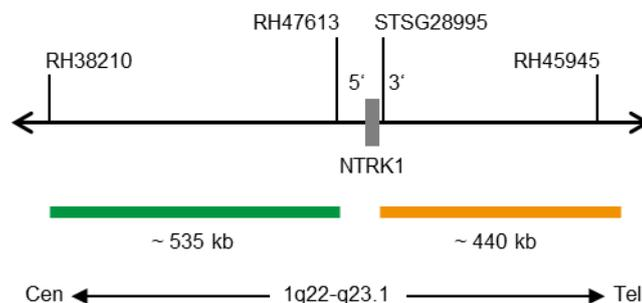
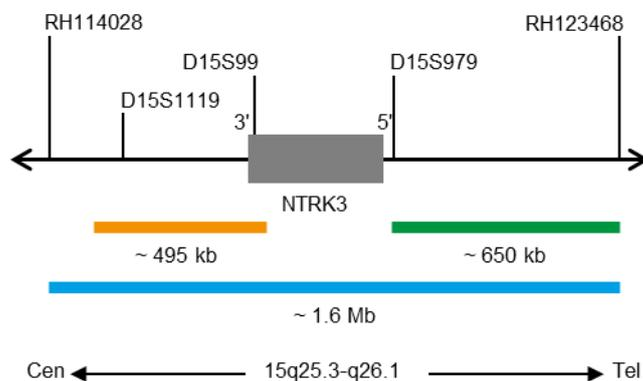

Fig. 1: NTRK1 Probe map (not to scale)
Fig. 2: NTRK3 Probe map (not to scale)
- ZyGreen (excitation 503 nm/emission 528 nm) labeled polynucleotides (~10.0 ng/ $\mu$ l), which target sequences mapping in 1q22-q23.1\* (chr1:156,245,849-156,781,745) proximal to the NTRK1 breakpoint region and in 15q25.3-q26.1\* (chr15:88,825,346-89,475,889) distal to the NTRK3 breakpoint region (see Fig. 1 & Fig. 2).
- ZyOrange (excitation 547 nm/emission 572 nm) labeled polynucleotides (~2.5 ng/ $\mu$ l), which target sequences mapping in 1q23.1\* (chr1:156,854,527-157,296,918) distal to the NTRK1 breakpoint region and in 15q25.3\* (chr15:87,976,717-88,471,002) proximal to the NTRK3 breakpoint region (see Fig. 1 & Fig. 2).
- ZyBlue (excitation 418 nm/emission 467 nm) labeled polynucleotides, (~70.0 ng/ $\mu$ l), which target sequences mapping in 15q25.3-q26.1\* (chr15:87,845,459-89,475,889) harboring the NTRK3 gene region (see Fig. 2).